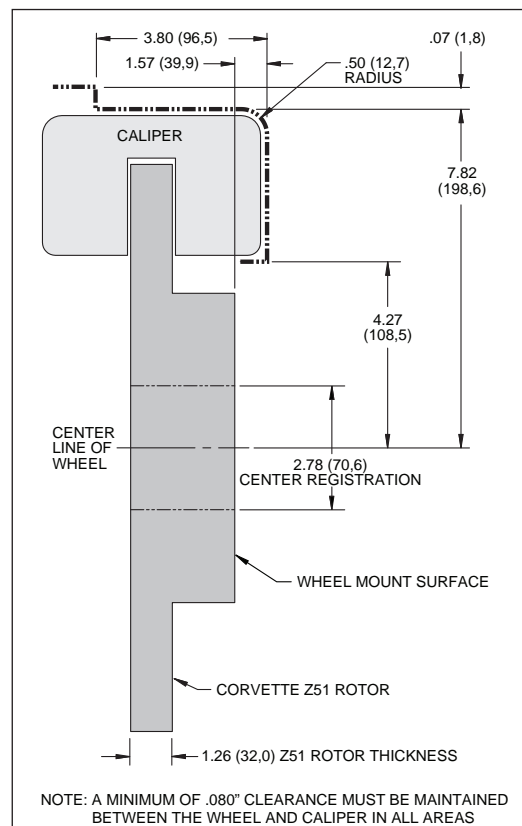

Figure 2. Wheel Clearance Diagram
- This kit may fit some 17" wheels, please refer to wheel clearance diagram (Figure 2, page 3) for your specific requirements. For ALL other wheels, consult the wheel clearance diagram (Figure 2, page 3) to determine compatibility. Parts that have been installed may not be returned or exchanged.
• Make sure this is the correct kit to fit the exact make and model year of your axle and wheels. This kit is designed for direct bolt-on installation to mount a W6A caliper, onto a 1997-2012 C5/C6 Corvette spindle, over a 2005-up Z51 factory replacement rotor. The 2005-up Z51 rotor is 13.4" (340mm) in diameter and 1.25" thick, and available from nearly all auto parts stores and Corvette performance parts warehouses. This kit requires a minimum of 17" diameter wheels. **NOTE: This kit does not fit all Corvette wheels.** Wheel clearance must be verified using Figure 2.
• Verify your wheel clearance using Figure 2.